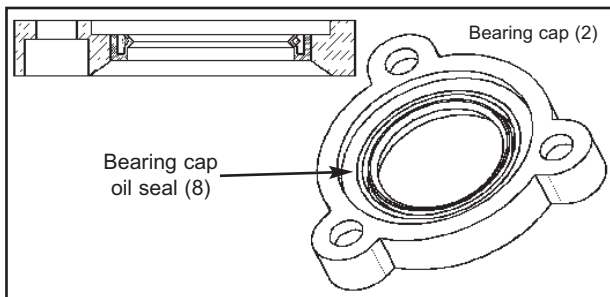

Figure 22
6. Lightly grease a new bearing cap oil seal (8). Using a properly sized seal punch, install the oil seal into the bearing cap with the lip up, so that it will face the bearing ; See figure 22.